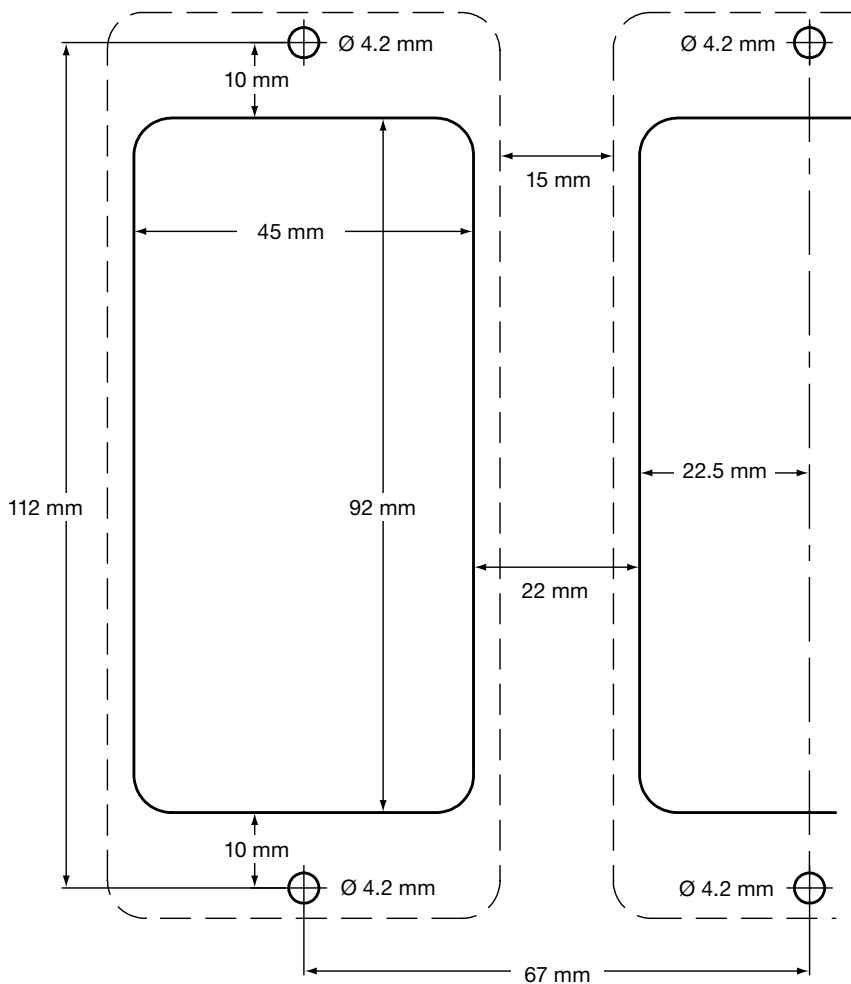

Fig. 2 Chassis plate/panel – cutout diagram
- Drill holes in chassis plate as shown in Figure 2.
- Cut the panel to the dimensions given in Figure 2. Drill the screw holes in the panel in the positions indicated.